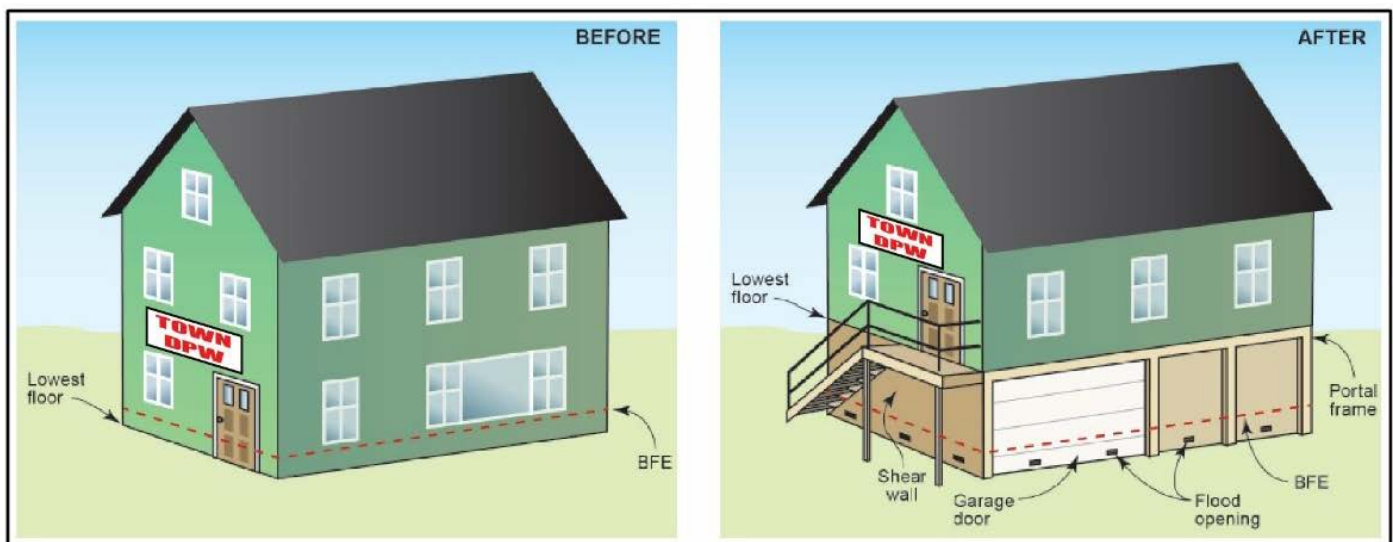

Figure 3.1.4. Abandoning the lowest floor can elevate usable space above the BFE.
- Install flood vents to allow floodwaters to enter the lowest level, equalizing flood levels inside and outside the building and reducing or relieving buoyancy and hydrostatic forces (Figure 3.1.4).